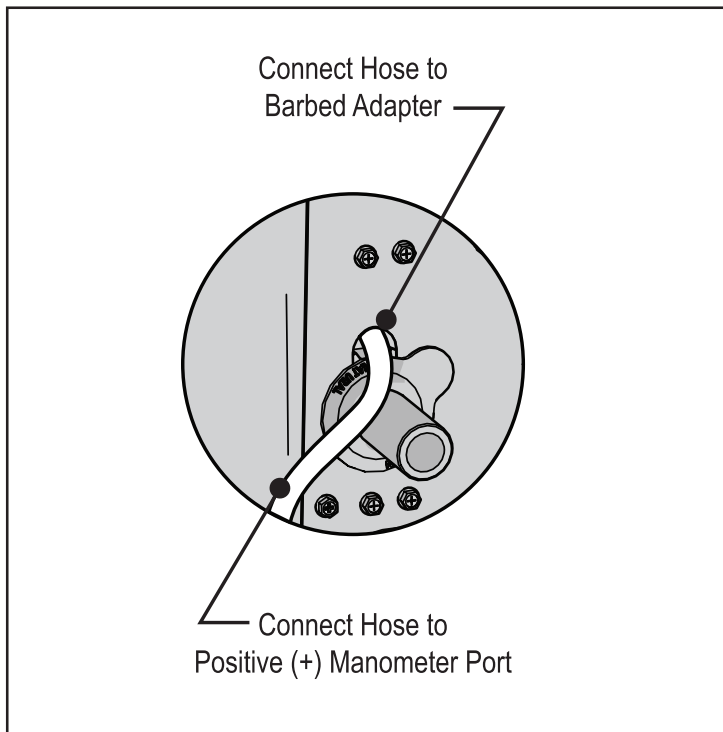

Figure 17. Rotate the Sealing Grommet to Expose the NPT Plug
6. Connect a hose to the adapter at the gas inlet port (see Figure 17).